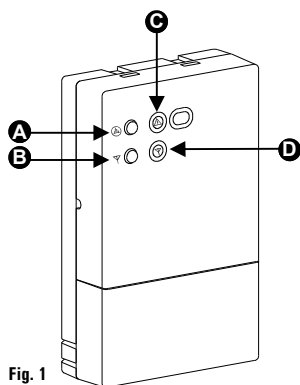

Fig. 1
**LEDs (C and D in Fig. 1)**
### TEST BUTTON "⊕" (A in Fig. 1)
### SELF-LEARNING BUTTON "▽" (E in Fig. 1)